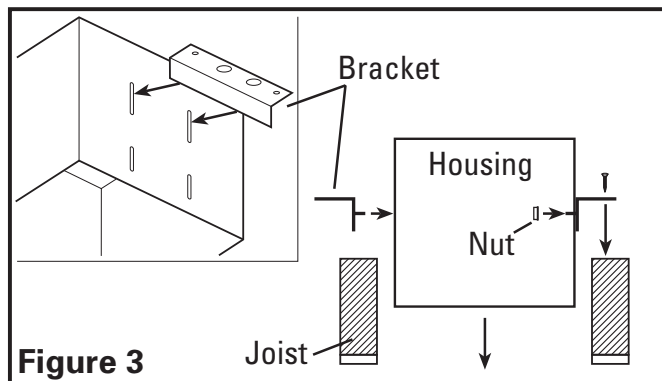

Figure 3
- 1b. **Installation on 2x6 Joists on 16" Centers:** Install the mounting brackets through the second set of slots on the fan housing and secure in place with the four included #10-32 nuts as shown. Center the fan housing between the joists and secure the mounting brackets with screws or nails (not included) to the joist. Adjust the height of the housing so that it is flush with the finished ceiling by loosening the mounting bracket nuts and sliding the housing up or down on the bracket. Fully tighten all four nuts to secure the housing in place (**Figure 3**).